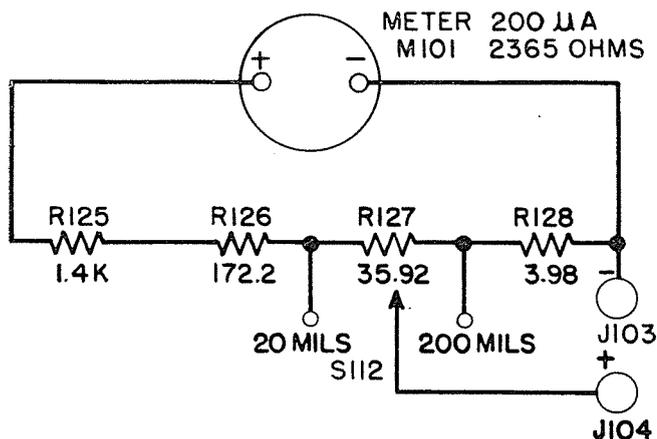

Figure 2-13. Simplified Milliammeter Circuit
d. MILLIAMPERES. (See Figure 2-13)
(1) The milliammeter, as shown in Figure 2-13 is of the conventional type and will measure up to 200 mils in two ranges, 0-20 and 0-200.
(2) To avoid possible damage to the meter always use the highest range first.